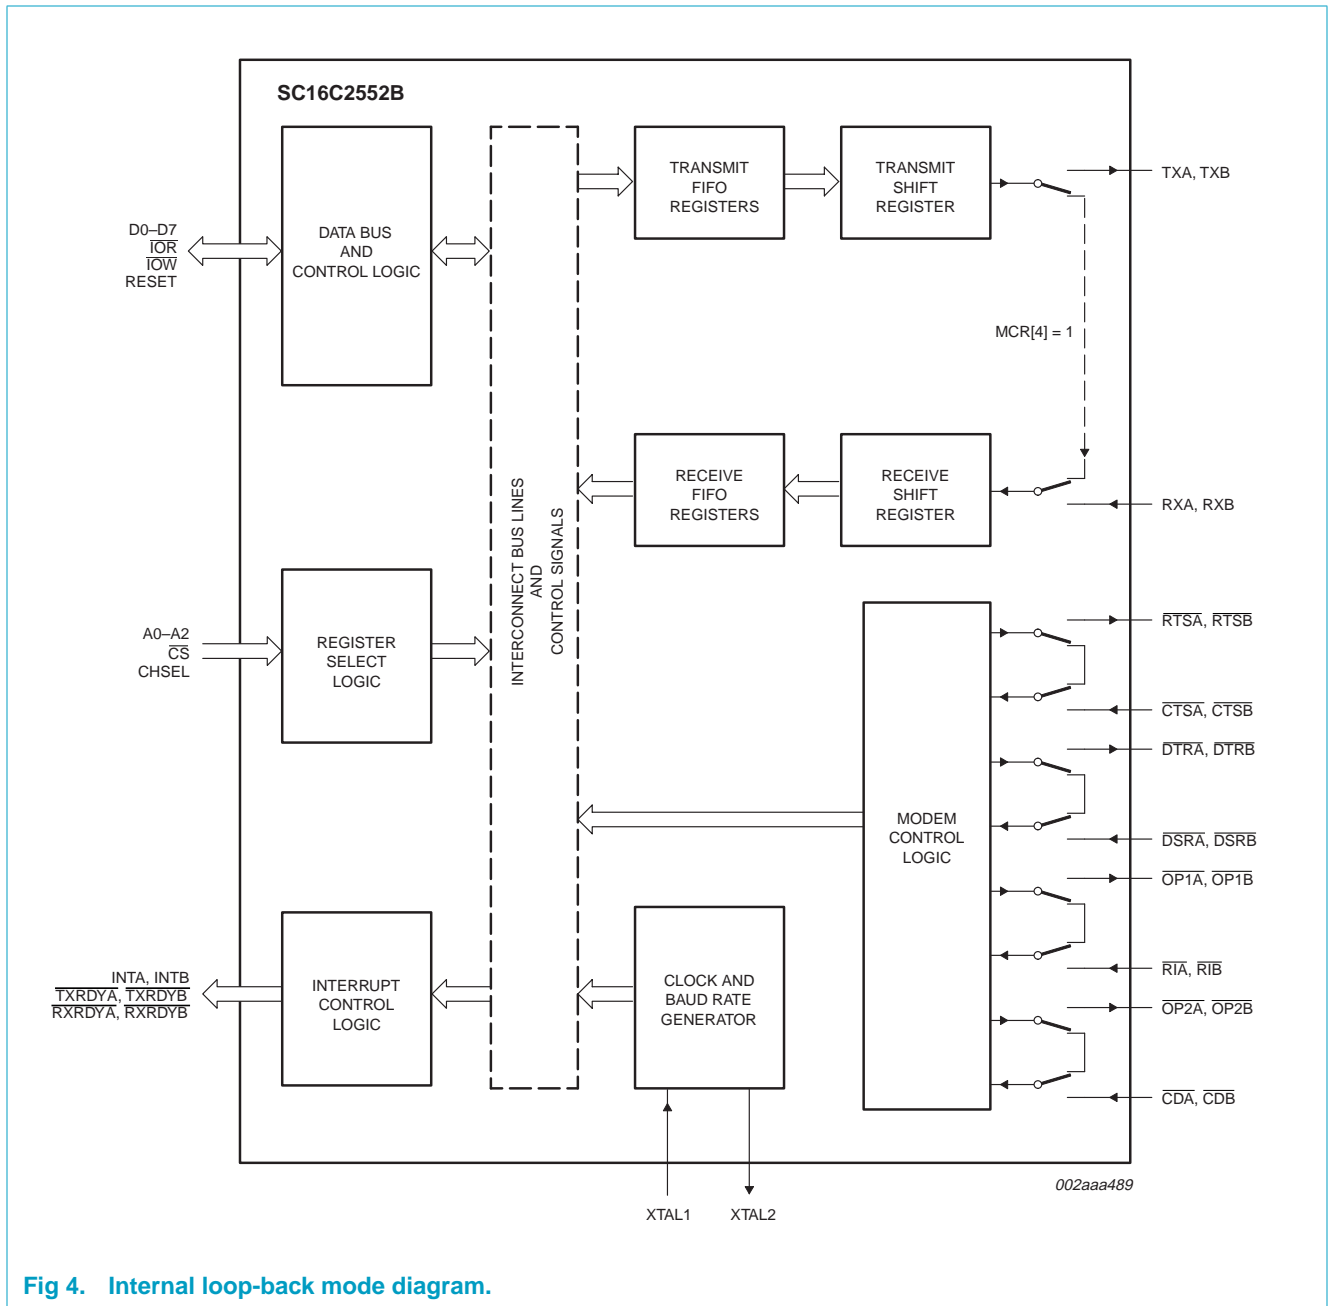

Fig 4. Internal loop-back mode diagram.
The internal loop-back capability allows on-board diagnostics. In the loop-back mode, the normal modem interface pins are disconnected and reconfigured for loop-back internally. MCR[0-3] register bits are used for controlling loop-back diagnostic testing. In the loop-back mode, INT enable and MCR[2] in the MCR register (bits 2-3) control the modem \overline{RI} and \overline{CD} inputs, respectively. MCR signals \overline{DTR} and \overline{RTS} (bits 0-1) are used to control the modem \overline{DSR} and \overline{CTS} inputs, respectively. The transmitter output (TX) and the receiver input (RX) are disconnected from their associated interface pins, and instead are connected together internally (see Figure 4). The \overline{CTS} , \overline{DSR} , \overline{CD} , and \overline{RI} are disconnected from their normal modem control inputs pins, and instead are connected internally to \overline{RTS} , \overline{DTR} , $\overline{OP2}$, and $\overline{OP1}$. Loop-back test data is entered into the transmit holding register via the user data bus interface, D0-D7. The transmit UART serializes the data and passes the serial data to the receive UART via the internal loop-back connection. The receive UART converts the serial data back into parallel data that is then made available at the user data interface D0-D7. The user optionally compares the received data to the initial transmitted data for verifying error-free operation of the UART TX/RX circuits.